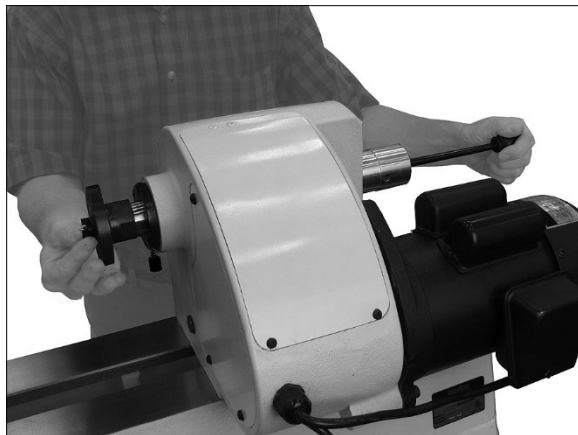

Figure 15
3. To *remove* a live center, first remove workpiece from lathe. Insert knockout rod (Figure 15) through hole in handwheel and tap the tapered end of the spur center.